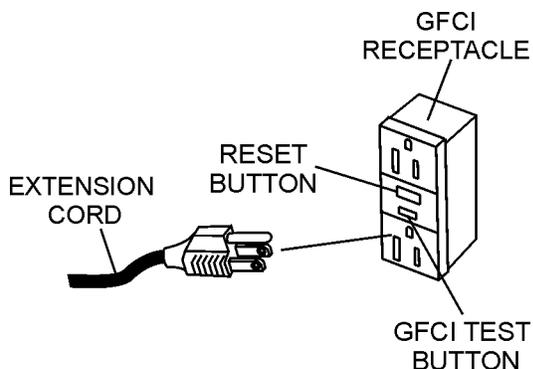

Figure 13. GFCI Receptacle
5. Plug the free end of the extension cord into an AC power receptacle. Whenever possible, use a GFCI receptacle (Figure 13) to reduce the risk of electrical shock.